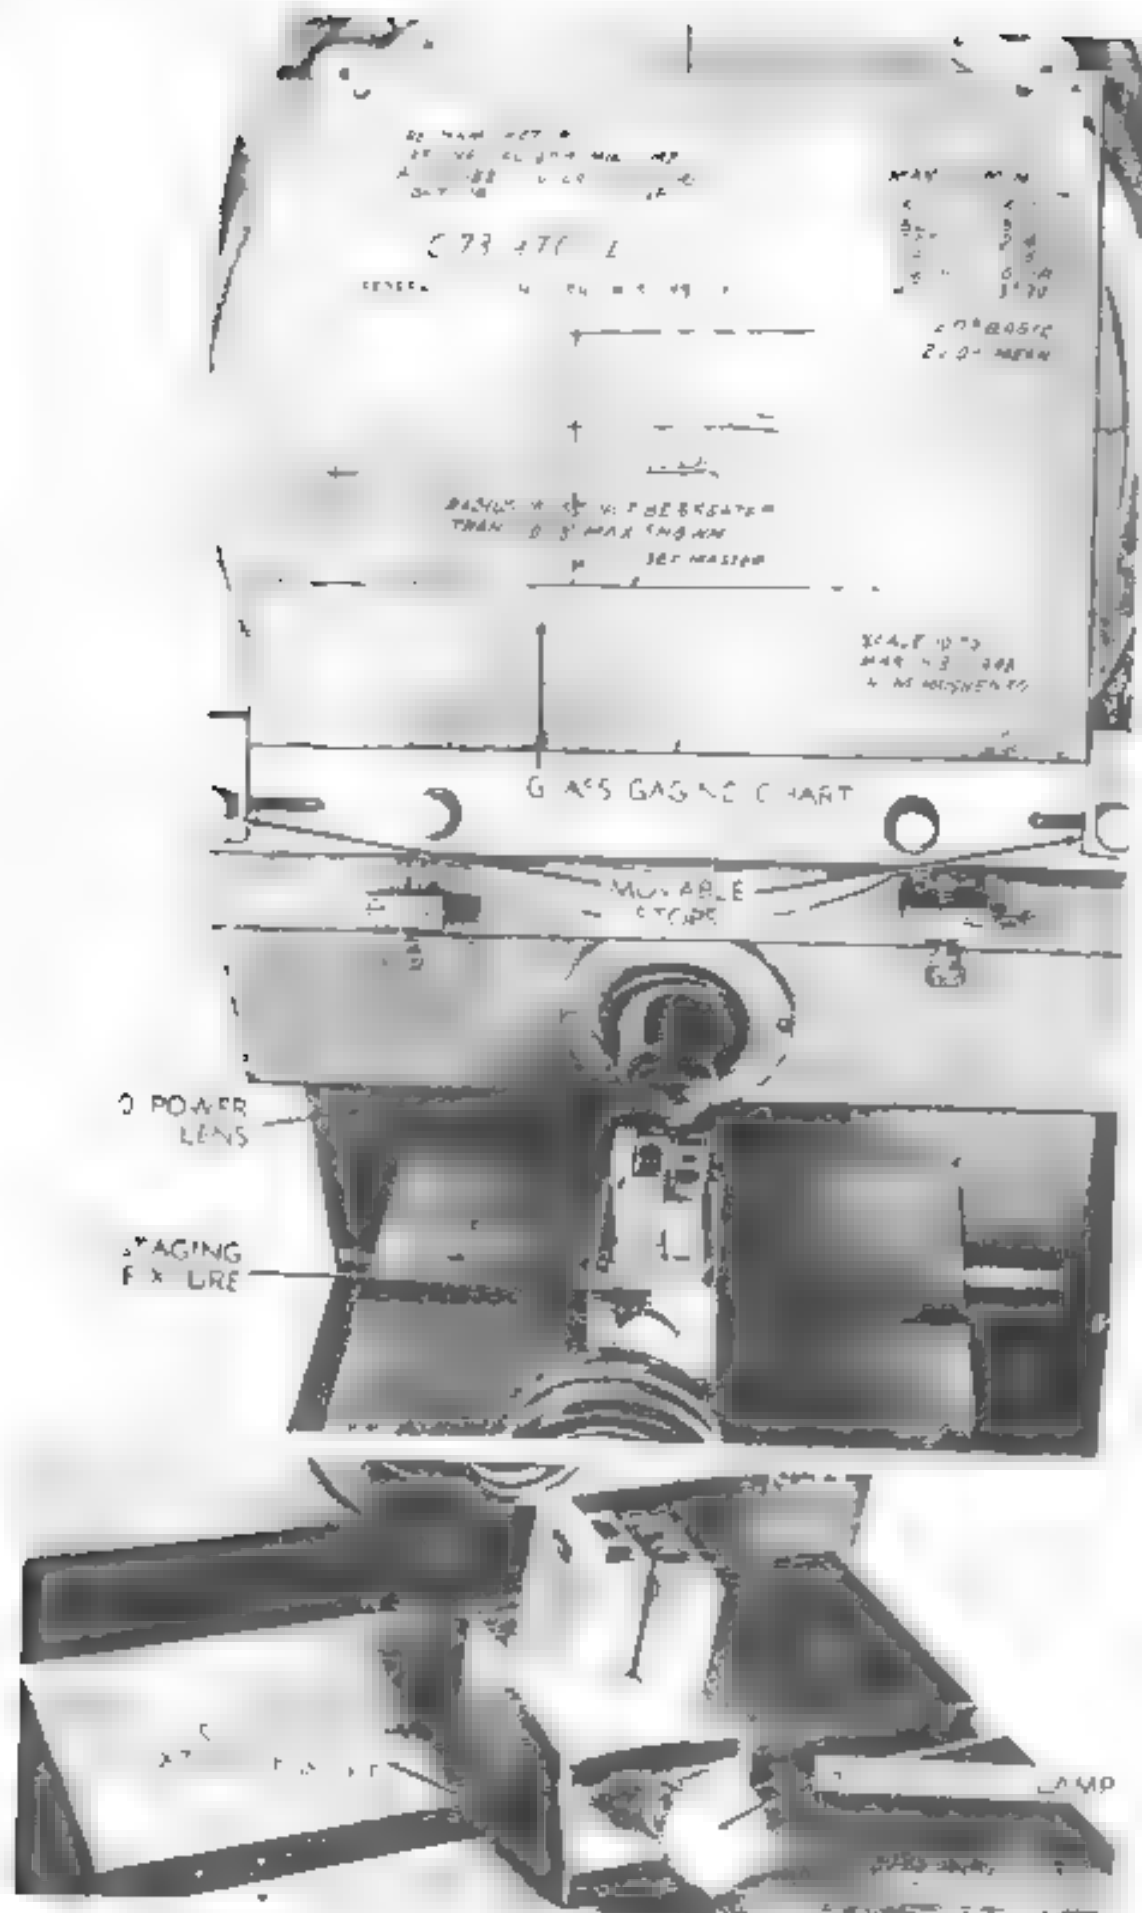

Figure 119 Screen and fixture set up for trigger inspection.
- (1) Place trigger contour screen, 18-S-1499-90 (fig. 14) in the proper position in the chart holder (fig. 119). The chart holder clamping screws may have to be slightly loosened in order to do this.
- (2) Insert the 10-power (82-mm) projection lens, specified in the lower right corner of the chart as the scale, into the lens bracket in the body of the comparator (fig. 119). The lens bushing, which is not needed for adapting the 10-power lens to the bracket, should be removed if still in place.
- (3) Locate the mirror assembly with respect to the 10-power stop pin.
- (4) Place the trigger staging fixture 7319707 (fig. 11) on the table with its tongue engaged in the groove of the table (fig. 119).
- (1) Place the trigger in the proper position on the staging fixture 7319701 (fig. 11) as shown in figure 119. It should be against the face of the fixture